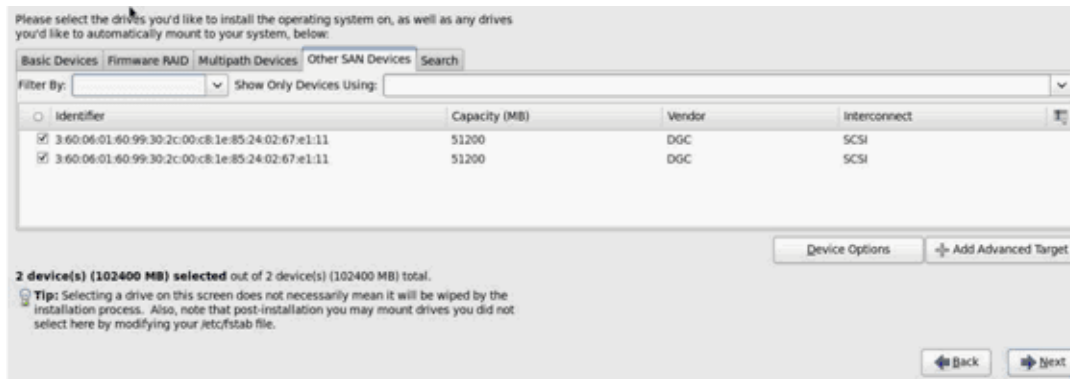

Figure 13-25. Confirming FCoE Disks
9. Confirm all FCoE visible disks are visible on the Multipath Devices or Other SAN Devices pages (Figure 13-25).